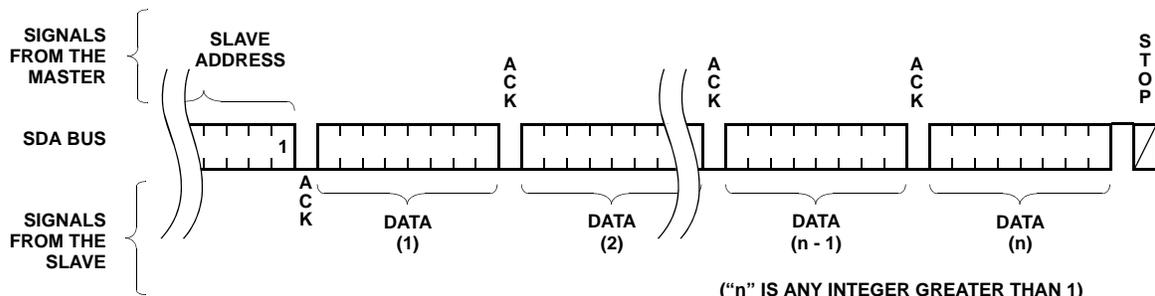

FIGURE 11. SEQUENTIAL READ SEQUENCE ("n" IS ANY INTEGER GREATER THAN 1)
The data output is sequential, with the data from address n followed by the data from address n + 1. The address counter for read operations increments through all page and column addresses, allowing the entire memory contents to be serially read during one operation. At the end of the address space the counter "rolls over" to address 0000_H and the device continues to output data for each acknowledge received. Refer to Figure 11 for the acknowledge and data transfer sequence.
- one bit of the slave command byte is a R/W bit. The R/W bit of the slave address byte defines the operation to be performed. When the R/W bit is a one, then a read operation is selected. A zero selects a write operation. Refer to Figure 11.